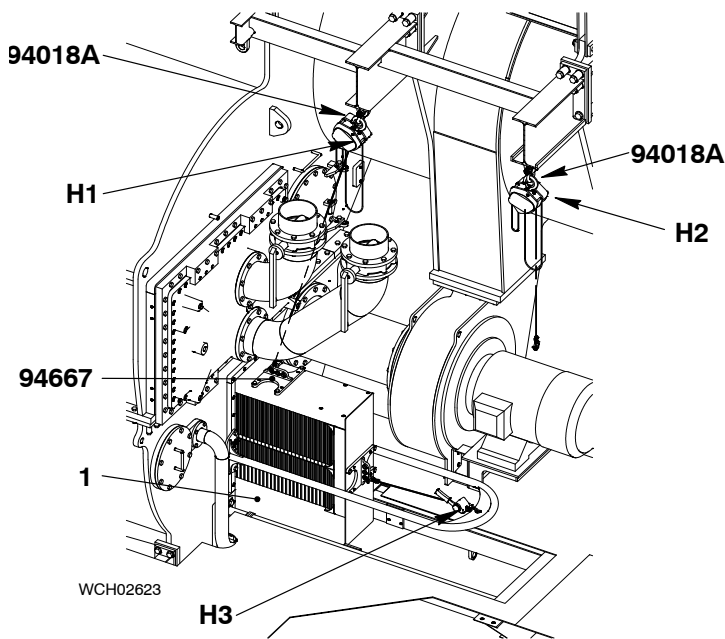

Fig. 4
- 11) Attach the two shackles (94018A, Fig. 4) to the gallery.